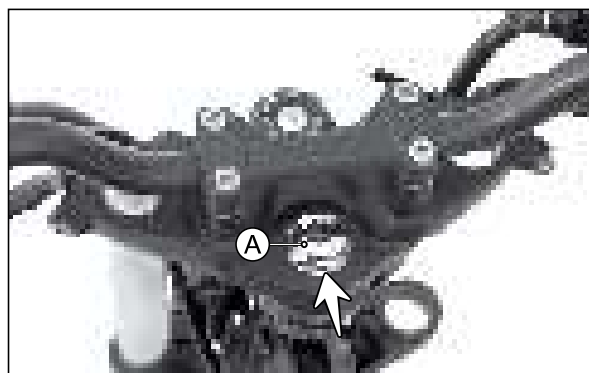

Fig. 6.69
- Take out cap lock nut (A) and remove lock nut steering along with the special washer. (Fig. 6.69)